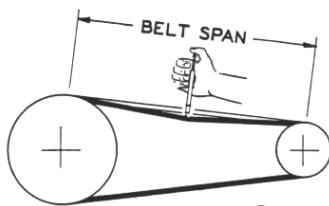

FIG. 3
2. Loosen six nuts(A) and tighten six bolts(B) until the belt tension needed is acquired as in Fig. 3.
3. Tighten nuts(A) back down snug with the motor mounting plate.